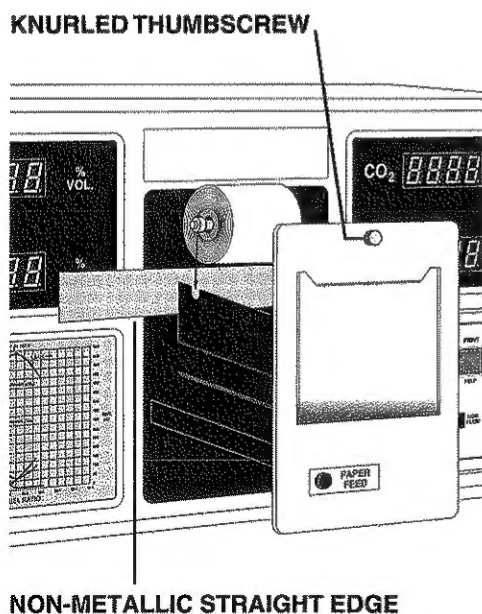

FIGURE 4:
1. With power to the analyzer **OFF**, loosen the knurled thumbscrew at the top of the printer door until it releases from the front panel of the analyzer. Pull the printer out the front of the analyzer until it stops (approximately 5 1/2"). The printer assembly can be propped open by placing a **non-metallic** straight edge between the rear of the printer assembly bracket and the front of the front panel as shown in FIGURE 4.